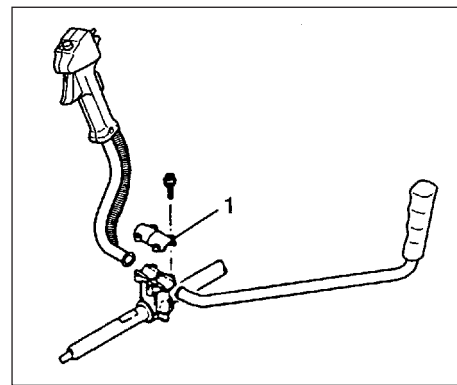

Fig.1-3
#### Installation of handle (Fig. 1-3, 3B)
Remove the handle bracket (1) from the assembly. (Fig. 1-3)